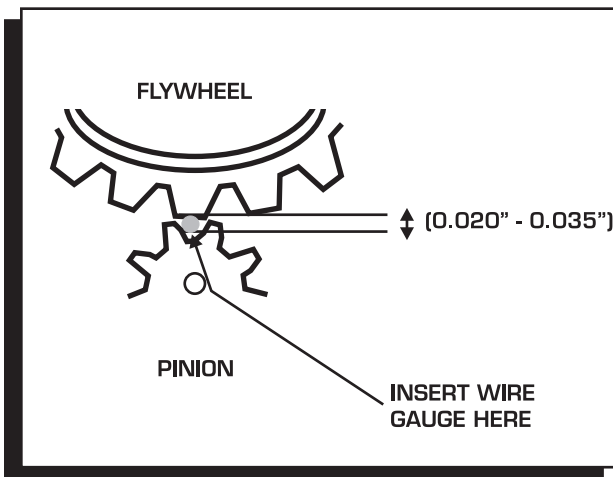

Figure 4 Checking Gear Mesh.
5. To check the pinion gear mesh, gently pry the gear out to engage to the ring gear. (Sometimes the pinion will not retract. This is normal.) Insert a wire gauge as shown in Figure 4. As a gauge, a standard 1.25" paperclip could be used as they generally are about .035" in diameter. There should be .020"-.035" clearance between the ring gear tooth and the pinion gear.
If there is a high pitch whine during cranking, the pinion to ring gear engagement may be out of specification, on the high side. If there is a whine after cranking there may be too little of clearance. The gear mesh spec is .020"-.035" (Figure 4).